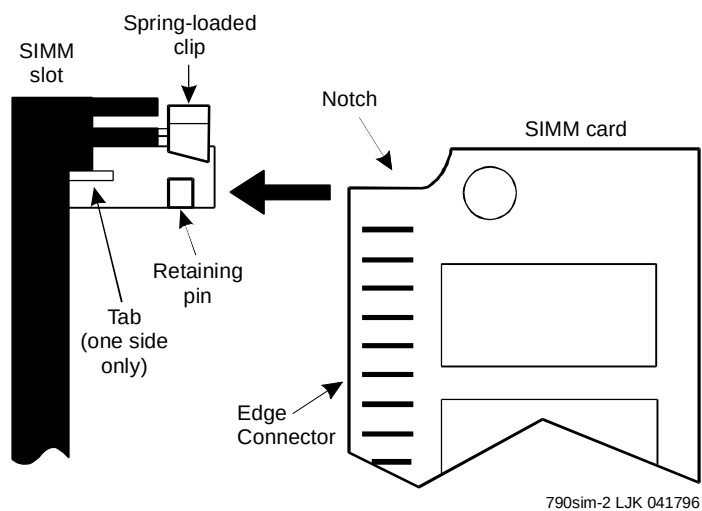

Figure 12-82. Align the SIMM with the SIMM Socket
3. Locate the Notch cutout area on one corner of the SIMM. See Figure 12-82. See WARNING.
(See Figure 12-82).